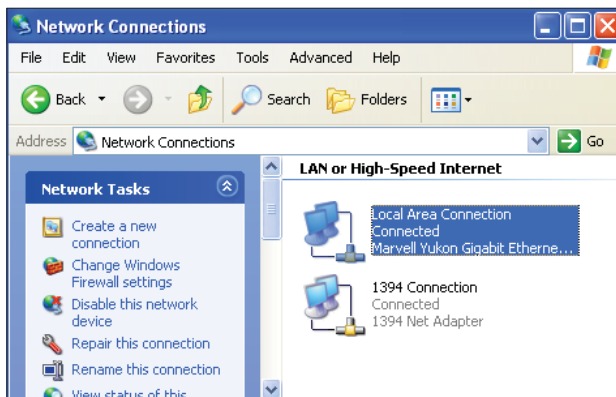

Figure 5: Network Connections Window
- 2.) Double-click on the **Network Connections** icon. The *Network Connections Window* will appear (**Figure 5**).